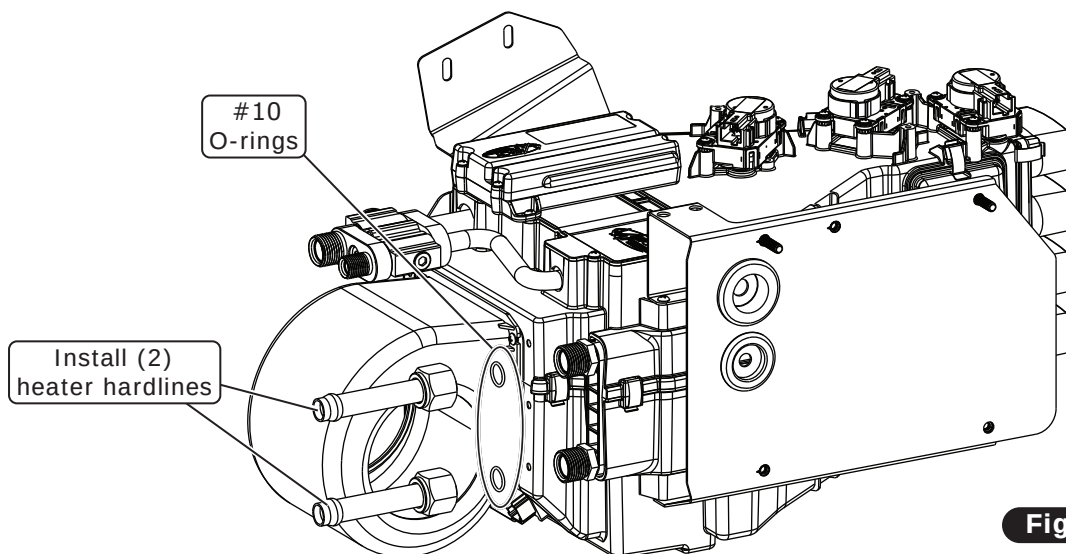

Figure 4
13. Install the (2) heater hardlines with properly lubricated O-rings (See Figure 4, below and Lubricating O-rings, Page 9). **NOTE: Be careful when removing caps from the sub case. The sub case is shipped under pressure.**